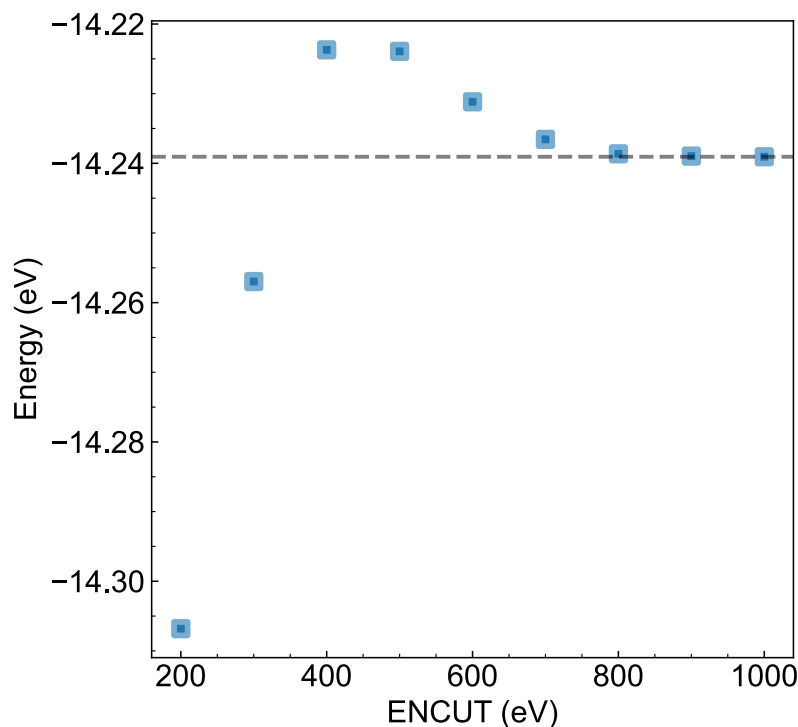

Figure 1. The convergence of Energy with respect to ENCUT.
b) The internal energy as a function of ENCUT is shown in Fig. 1. According to the official guide, the plane-wave-basis set only includes the plane waves that have a kinetic energy smaller than ENCUT. If the ENCUT value is set too low, the plane wave basis set will be insufficient to accurately describe the electronic wavefunctions. As the value of ENCUT is increased, the calculation of the total energy becomes more accurate, and converges to a stable value. It's essential to ensure that calculations are performed at or above this converged ENCUT value to obtain accurate results. It's worth noting that while increasing ENCUT improves accuracy, it also increases the computational cost of the simulation. Hence, it's a common practice to perform convergence tests: increasing ENCUT in steps until the energy stabilizes, thus ensuring accuracy without unnecessary computational expense.